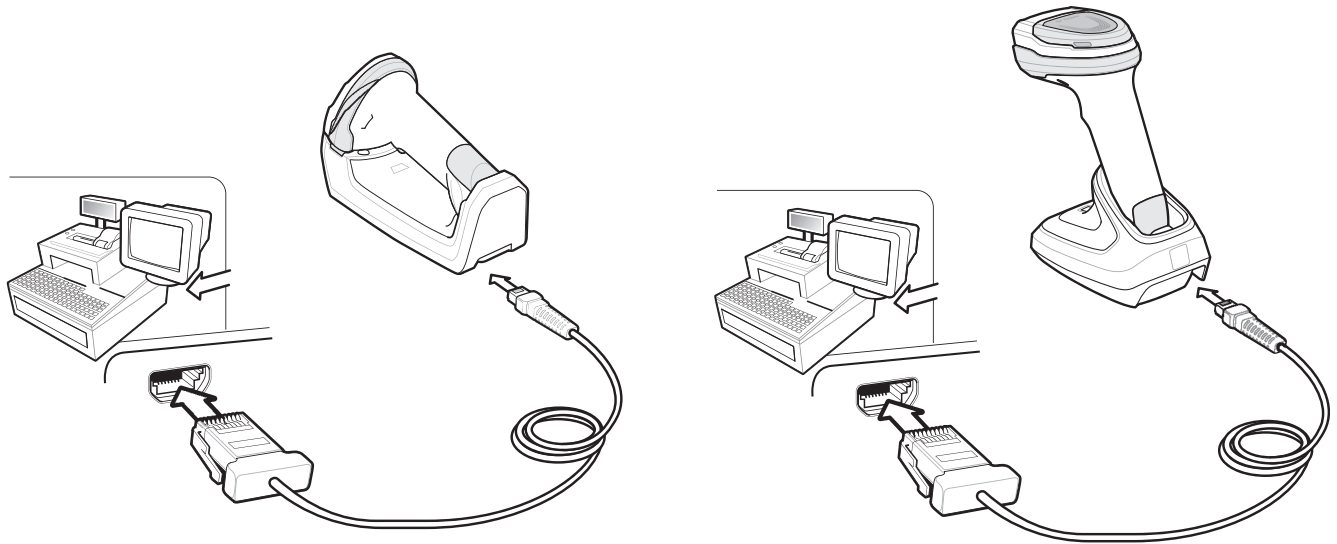

Figure 11-1 *IBM Direct Connection*
- ✓ **NOTE** Interface cables vary depending on configuration. The connectors illustrated in Figure 11-1 are examples only. The connectors may be different from those illustrated, but the steps to connect the cradle remain the same.